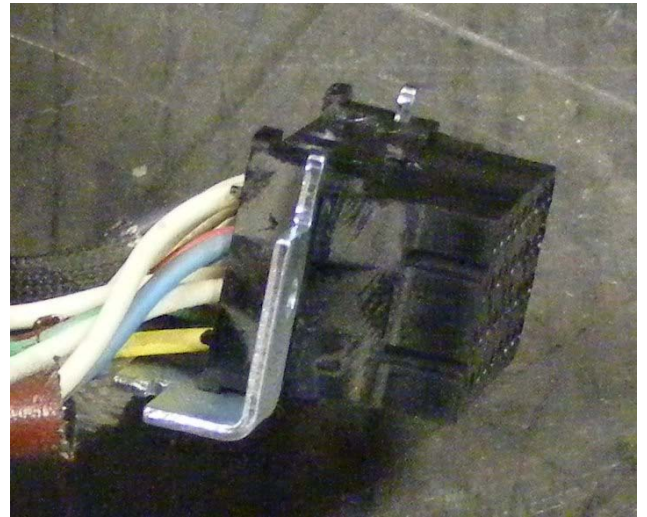

FIGURE 15, HORSESHOE BRACKET INSTALLED ON PLASTIC HOUSING
5.7. Slide the supplied “horseshoe” adapter bracket over the plastic housing. The notches in the plug body should fit through the notches of the “horseshoe”. Refer to figure 15.